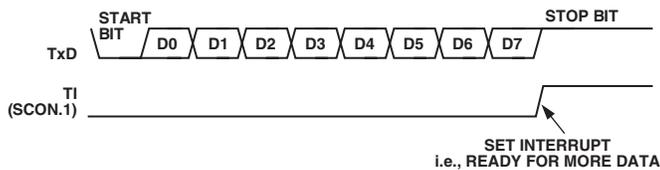

Figure 33. UART Serial Port Transmission, Mode 1
Transmission is initiated by writing to SBUF. The “write to SBUF” signal also loads a 1 (stop bit) into the ninth bit position of the transmit shift register. The data is output bit by bit until the stop bit appears on TxD and the transmit interrupt flag (TI) is automatically set, as shown in Figure 33.